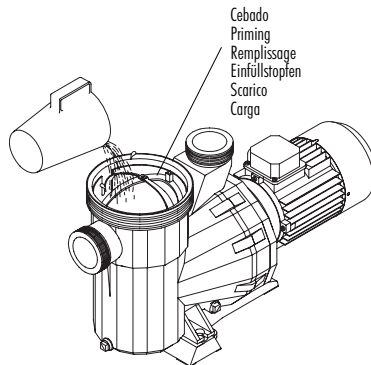

Fig. 3
- To ensure the pump works correctly, prime the pump pre-filter until water rises up through the suction pipe (Fig.3).